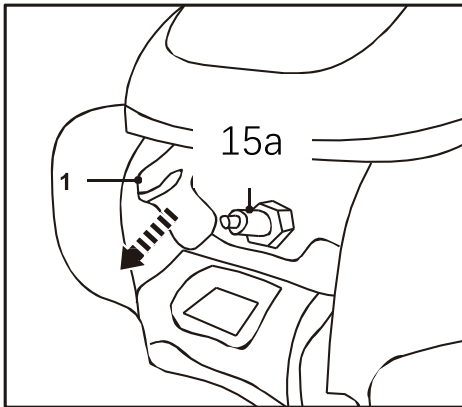

Fig. 26
1. Disconnect the spark plug connector (15) (Fig. 26).